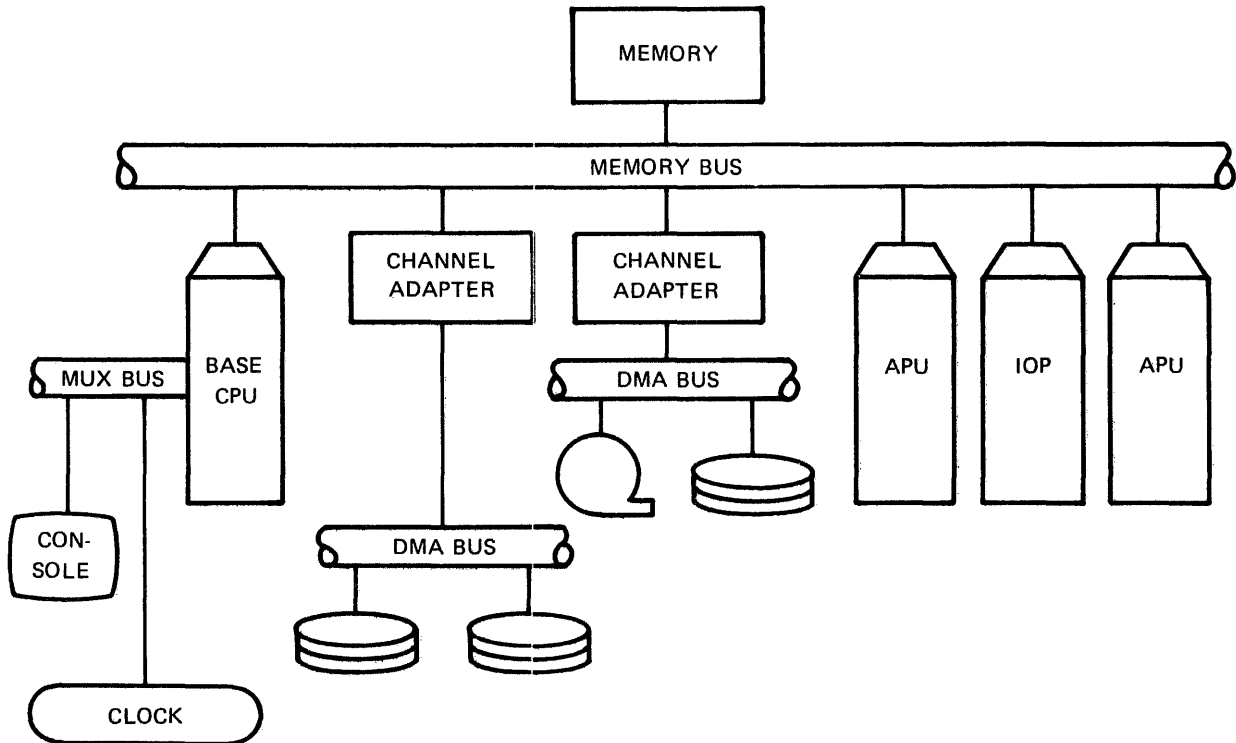

Figure 1-2 Configuration of a Typical Multiprocessing System
- Up to nine auxiliary or input/output processing units (APUs or IOPs) in a multiprocessing system. Figure 1-2 depicts the configuration of a typical multiprocessing system.